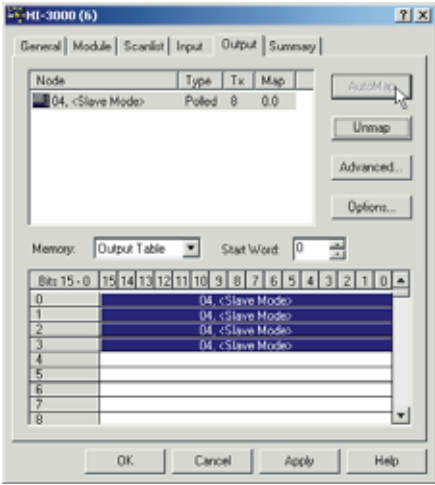

FIG. 125: OUTPUT PAGE/OUTPUTS MAPPED
Step 10. Click on the AutoMap button to Map the Outputs. (See Fig. 125)